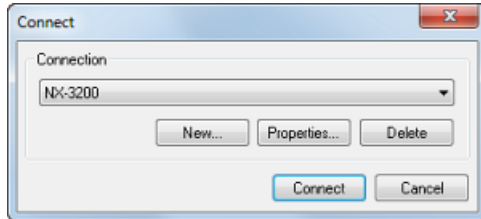

FIG. 174 Connect dialog
1. In TPDesign5, select **Transfer > Connect** to open the *Connect* dialog (FIG. 174):